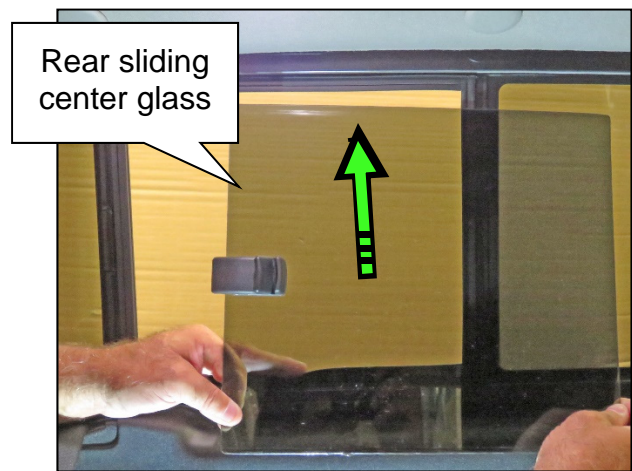

Figure 18
- Push the rear sliding center glass upward, into the upper glass channel (Figure 18).